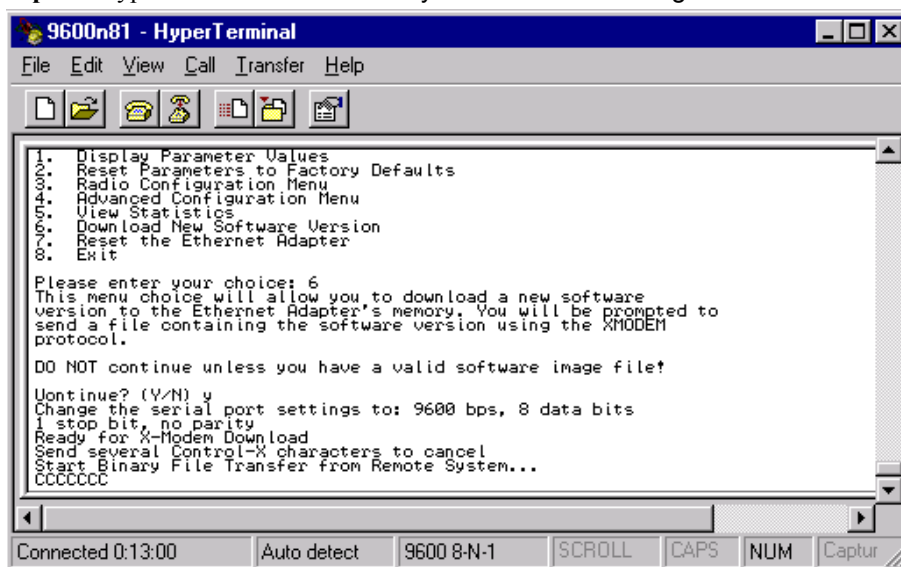

Figure 5-53 Start Binary File Transfer Information
Step 18. Type **Y** to initiate Start Binary File Transfer. See Figure 5-53.